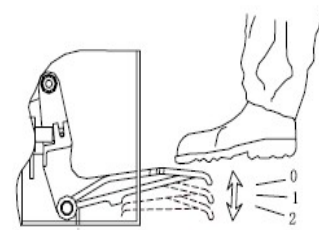
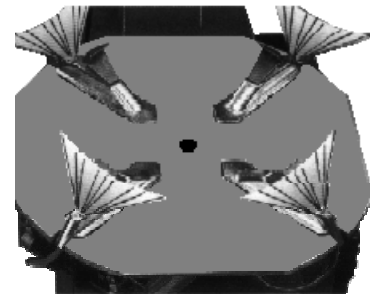

Fig 14
Fig 15
- Press Rapid Tire Inflation Pedal to the middle position (Fig 14, position 1), the inflating head should give air.
- Press Rapid Tire Inflation Pedal all the way down (Fig 14, position 2), a strong air blast should come from the holes in the four jaws' locking sliders. (**Fig 15**)